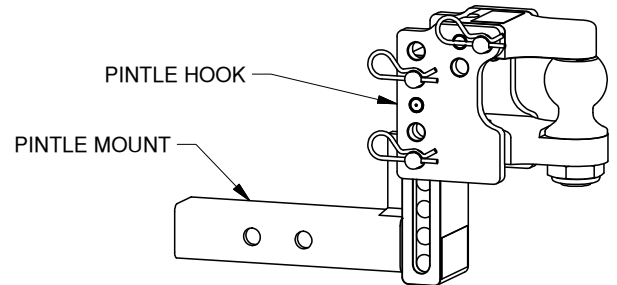
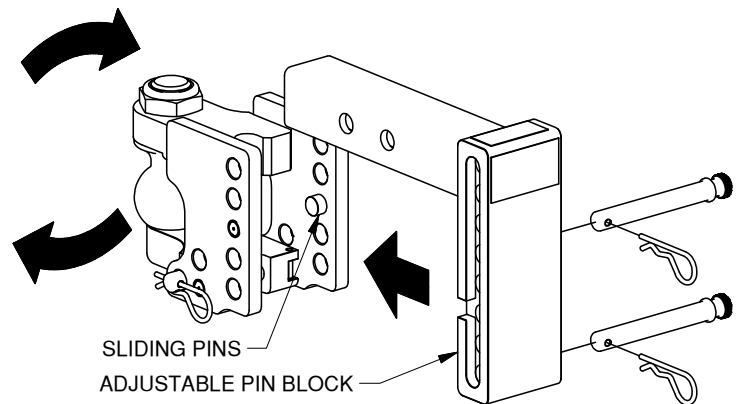
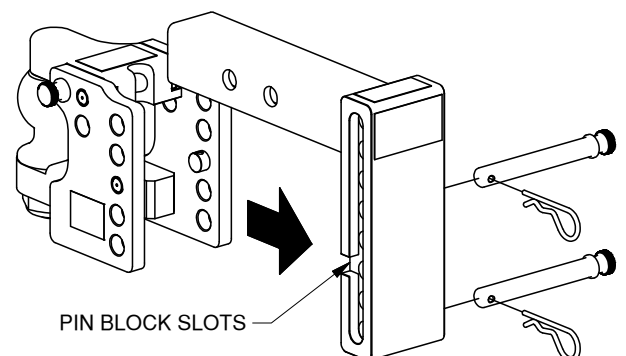

Figure 3: The pintle hook in the highest position.
Figure 4: Removing and rotating the pintle hook.
Figure 5: Replacing pintle hook.
- **Reversing the pintle hook for more adjustment options.** The pintle hook can be reversed so that the Pintle mount may be placed in the receiver with the adjustable pin block away from the ground for greater height adjustment, see Figure 3. To reverse the Pintle hook, remove the two stainless-steel pins securing the pintle hook to the pintle mount. Move the pintle hook to the "Stow position" and pull the pintle hook out of the adjustable pin block by guiding the sliding pins out of the two slots in the adjustable pin block, see Figure 4. Flip the pintle hook over and replace in the adjustable pin block, see Figure 5. Move the pintle hook to the desired position and replace the stainless-steel pins.